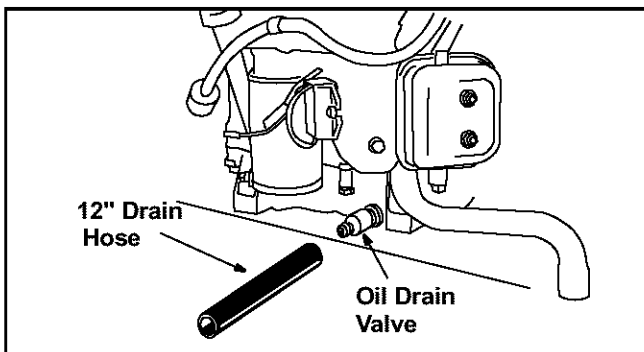

Figure 27
- Your lawn tractor may have a valve installed on the engine for draining oil from the crankcase. To drain the oil, insert the 12" hose (shipped loose with your unit) over the end of the valve. Place the other end in a suitable container. Push in black cap, rotate counter-clockwise and pull valve open. When oil is completely drained, push top of valve in and rotate clockwise to close. See Figure 27.